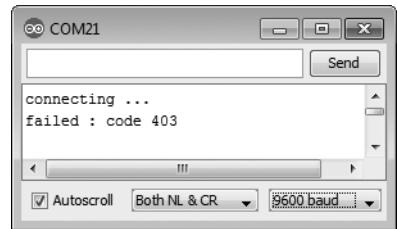

Figure 19-5: Results of tweeting too quickly
When you’re creating your Arduino tweeter, keep in mind that you can send no more than one tweet per minute and that each message must be unique. (These are Twitter’s rules.) When sending tweets, Twitter also replies with a status code. The sketch will receive and display this in the Serial Monitor using the code at ❺, an example of which is shown in Figure 19-5. If you receive a “403” message like this, either your token is incorrect or you’re sending tweets too quickly. (For a complete list of Twitter error codes, see <http://dev.twitter.com/docs/error-codes-responses/>.)